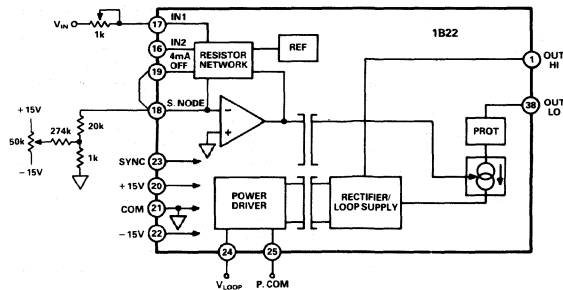

Figure 4. Optional Offset and Span Adjustment
**Optional Trim Adjustments:** Figure 4 is an example of using potentiometers for trimming gain and offset for a 0 to +10 V input and 4 to 20 mA output. The network for offset adjustment keeps the resistors relatively small to minimize noise effects while giving a sensitivity of  $\pm 1\%$  of span. For more adjustment range, resistors smaller than 274 k $\Omega$  can be used.